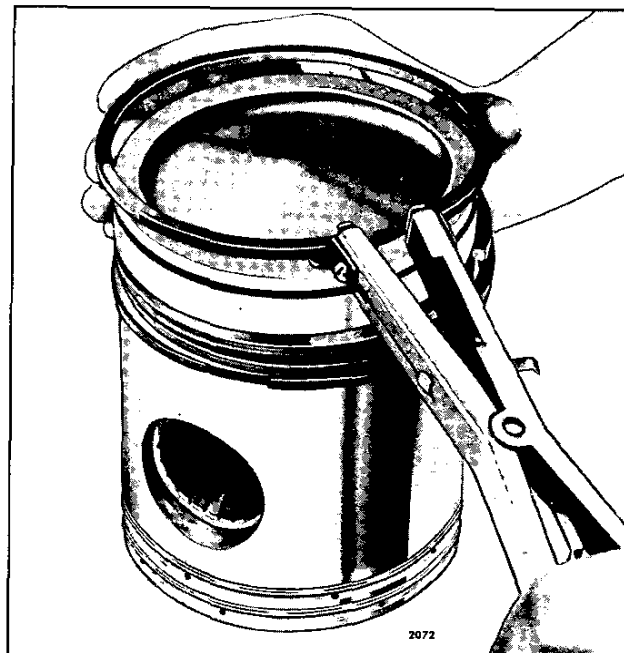

Fig. 2 – Removing or Installing Piston Ring Using Tool J 8128
1. Secure the connecting rod in a vise equipped with soft jaws and remove the piston rings with tool J 8128 (Fig. 2).